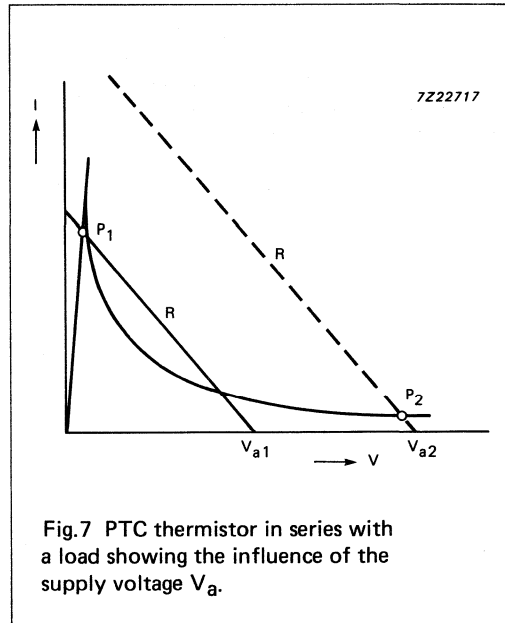

Fig.7 PTC thermistor in series with a load showing the influence of the supply voltage  $V_a$ .
1.  $V_a$  increases, see Fig.7.